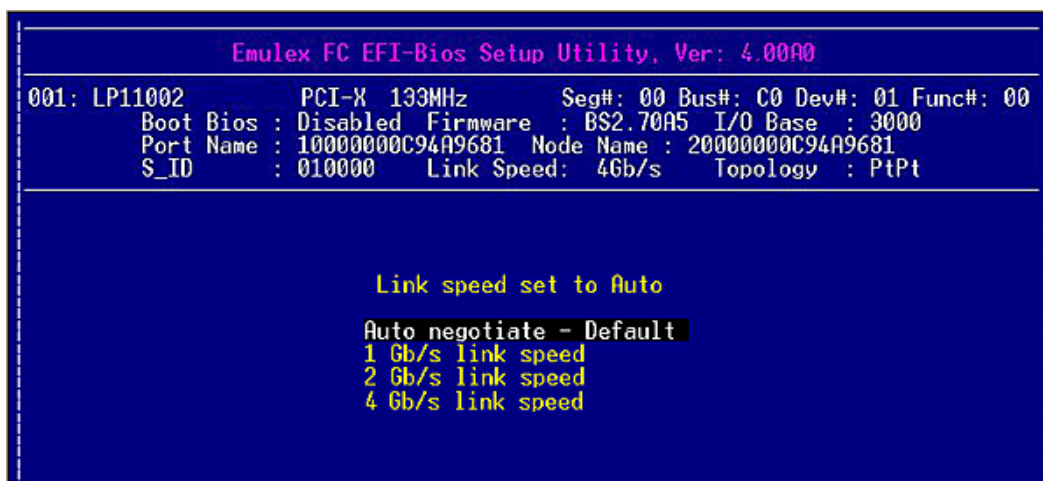

Figure 6-13 Force Link Speed Setup Screen
Use this feature to change, or force, the link speed between ports instead of auto negotiating. The supported link speeds depend upon the adapter. The screen (Figure 6-13) will only show options that are valid for the current adapter.
1. On the Adapter Configuration menu, select **4. Force Link Speed** and press **<Enter>**. A screen similar to Figure 6-13 is displayed. Possible link speeds depend upon your adapter model.